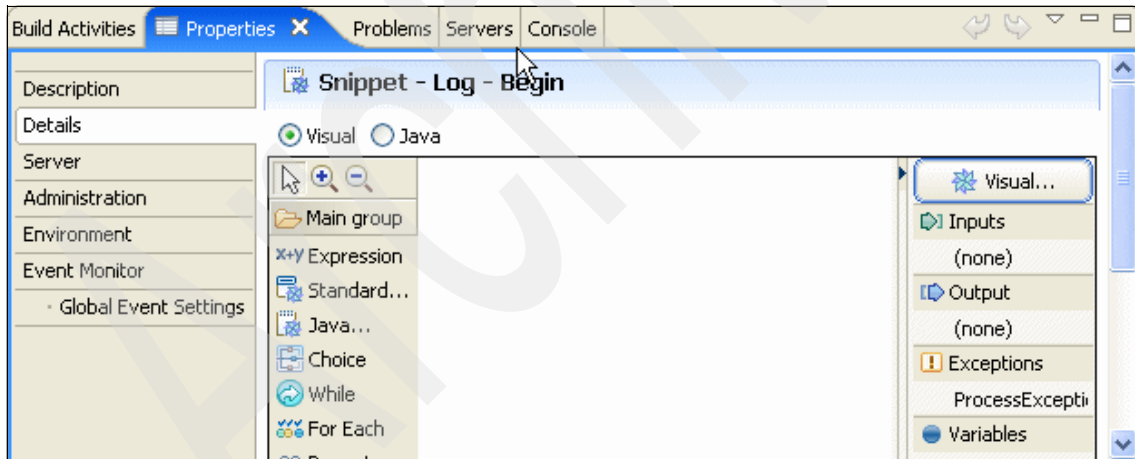

Figure 3-16 Properties view of Log - Begin
2. Click **Log - Begin** and then go to the Properties view (Figure 3-16).